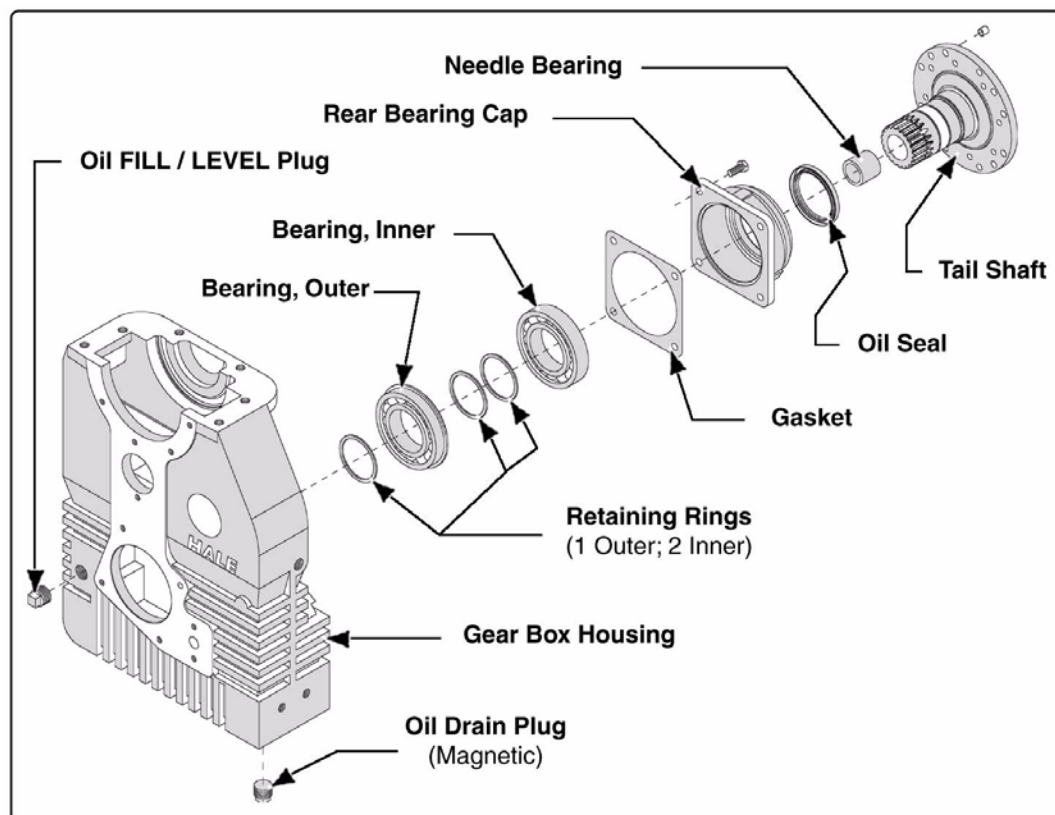

Figure 9-2: Tail Shaft Assembly
1. Remove and disassemble the tail shaft assembly - four 7/16"-14 hex screws. (See Figure 9-2: "Tail Shaft Assembly" on page 150.)
- Inner bearing retaining rings (2)
(See Figure 9-2: “Tail Shaft Assembly” on page 150.)
9. Install the rear bearing cap - four 7/16”-14 screws. (See Figure 9-2: “Tail Shaft Assembly” on page 150.) EVENLY tighten and torque the screws, in a criss-cross pattern, to 40 ft.-lbs. (54 N-m).